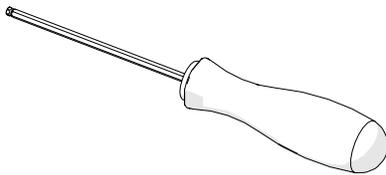
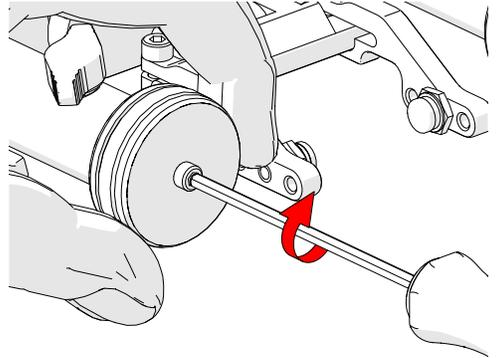

Fig. 11 - 3 mm hex driver
Fig. 32 - Wheel installation
The 3 mm hex driver (*Fig. 11*) is sufficient for all typical operations and adjustments of the **STIX**.
3. Grip the magnetic wheel by hand, and using the supplied 3 mm hex driver (Fig. 11), tighten the magnetic wheel to the axle (Fig. 32).